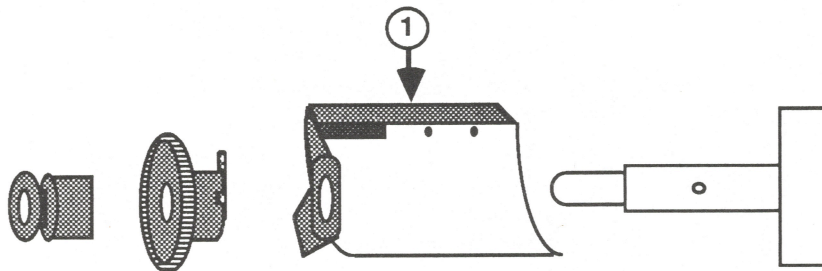

FIGURE 1
1. Look at the left side of the platen assembly. If there IS a paper-empty plate (Figure 1), the mechanical paper sensor is installed. If there is NO paper-empty plate, the optical paper sensor is installed.